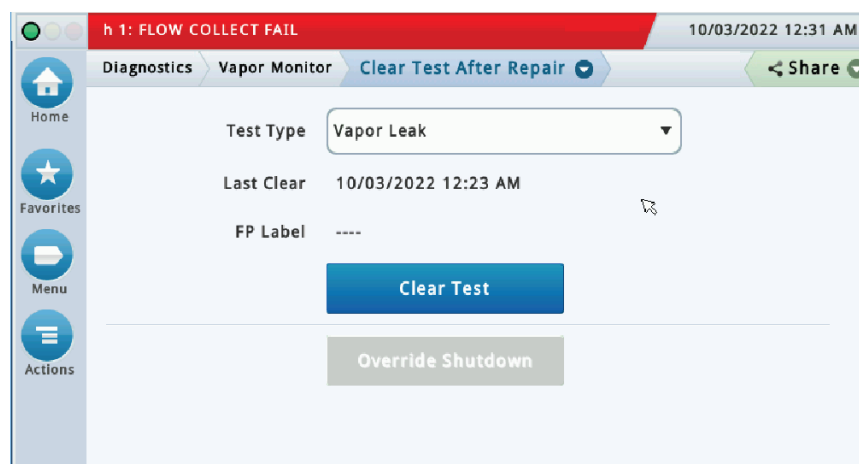

Figure 62. Last Clear Field Updates
6. The date and time in the Last Clear field updates (see Figure 62).